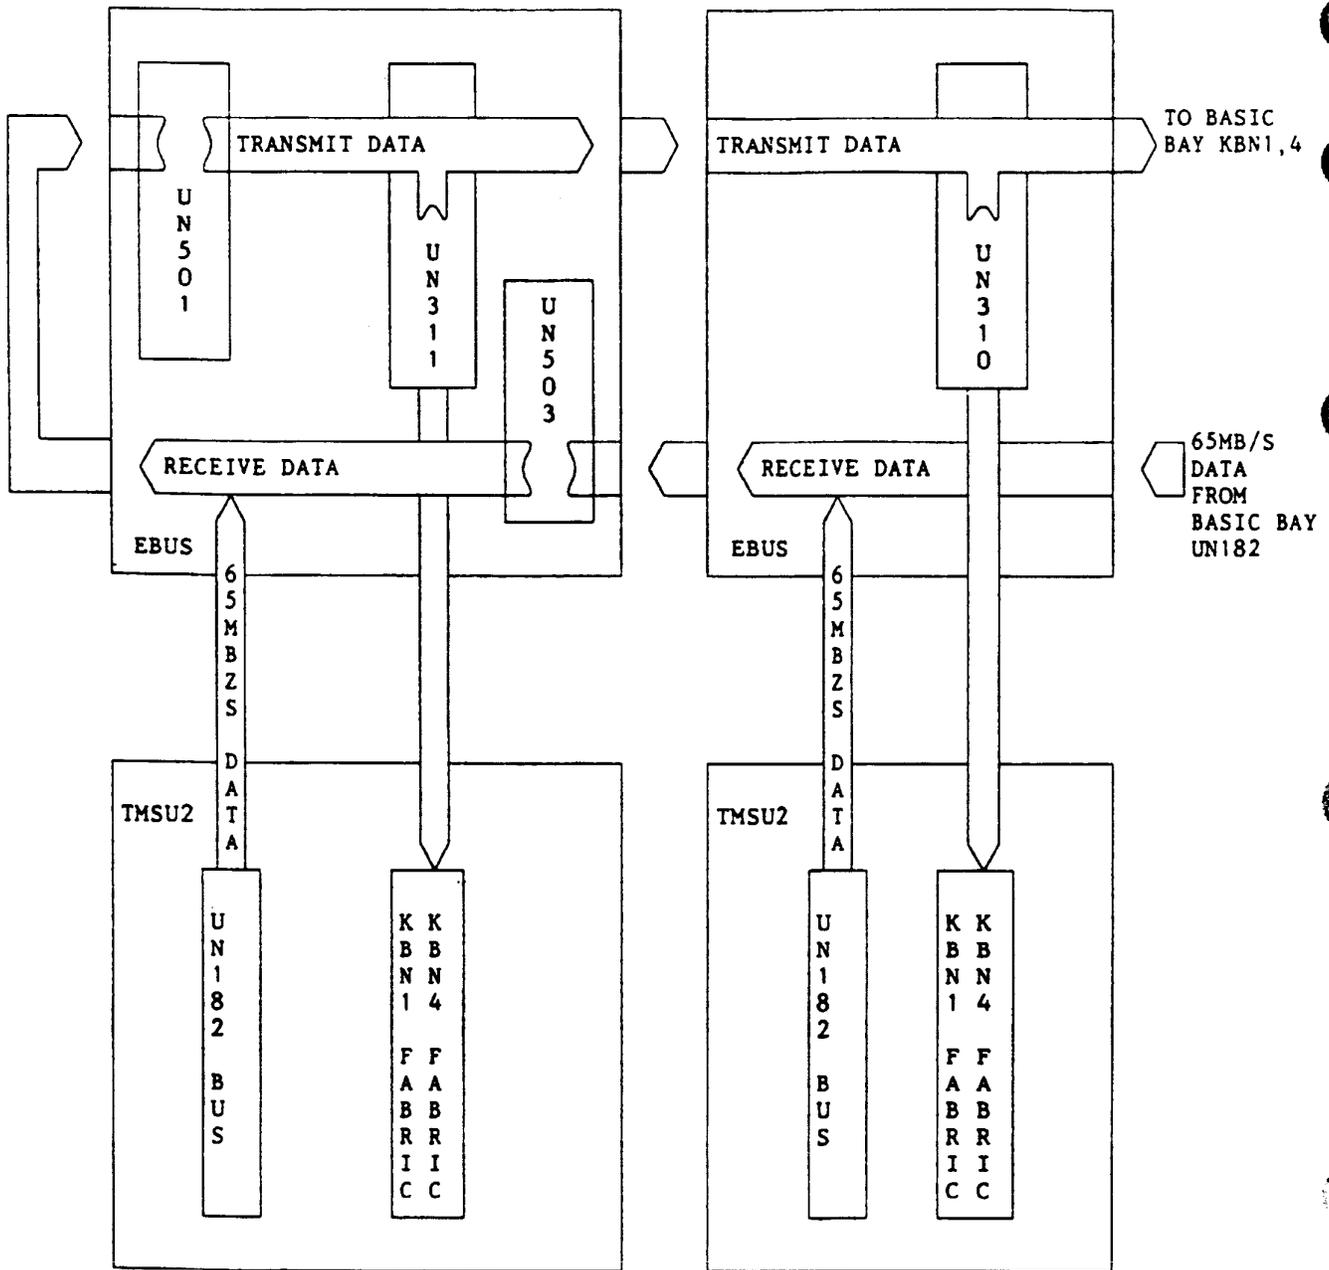

Figure 2. Data
2.03 The UN182 SUB puts 65Mb/s of data, destined for the KBN1, 4 Fabric Board, onto the receive side of the EBUS via coaxial ribbon cable (Figure 2). The data is tapped from the transmit side of the EBUS by either a UN310 Data End Tap Board or a UN311 Data Tap Board, and is distributed to a KBN1 Fabric Board via coaxial ribbon cable. Data on the EBUS is repeated with UN501 and UN503 data repeater boards.